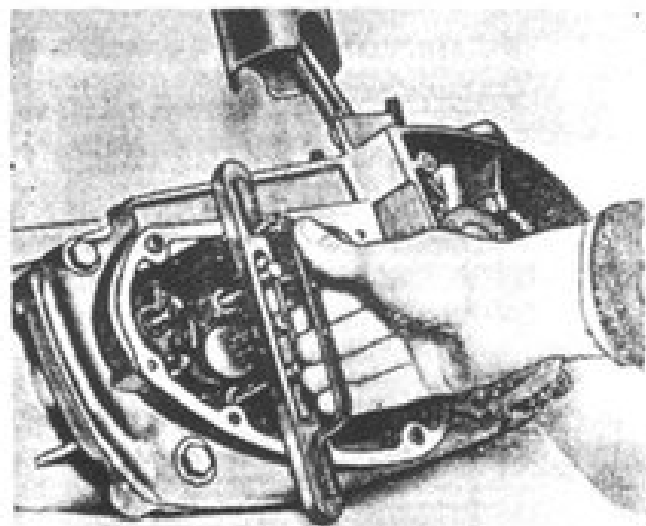

Fig. 14. Determination of the gear shift shaft axial clearance, HЖ-II-3 motorcycle.
4. Control the adjustment by means of a feeler gauge 18, Set No. 2 (Fig. 14). In one position of the gauge the thrust washer is tightly pressed to it but it should rotate freely in the other position.